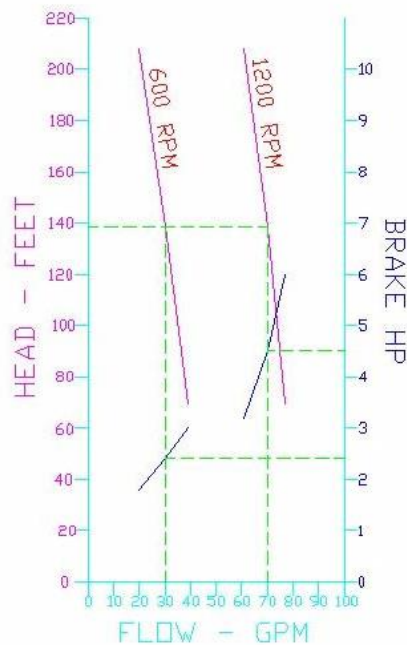

Figure 4.11 Sample pump curve for progressing cavity pump
- Positive displacement pumps do not have a performance curve shaped like the performance curve of a centrifugal pump. See Figure 4.11.
Example 4.1: What is pump efficiency for progressing cavity pump shown in Figure 4.11 when operating at a flow of 70 gpm and a speed of 1200 rpm?